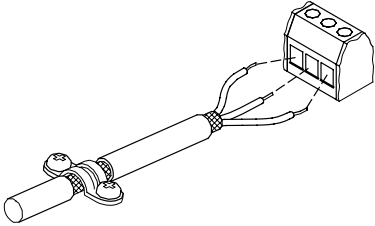

Fig. 9 Stripped cable with shield and wire connection
- The shield of the cable must be connected to frame at both ends with good frame connection. It must be as close as possible to the terminals, fig. 9.